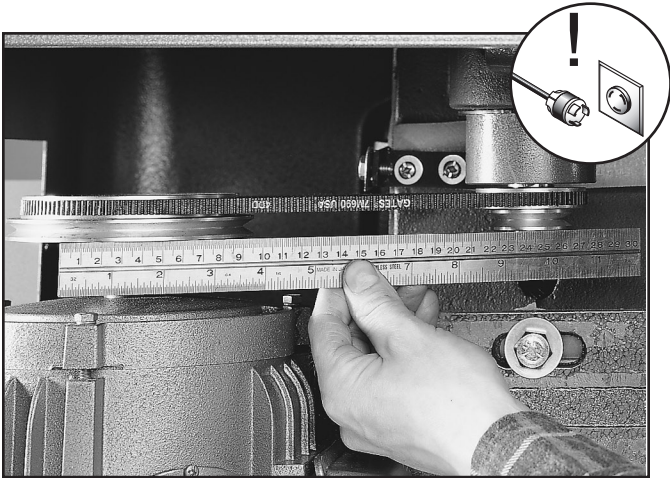

Figure 16. Inspecting pulley alignment.
3. Check the alignment with a straightedge. If the pulleys are in alignment, the straightedge should touch two sides of each pulley evenly. See **Figure 16**.